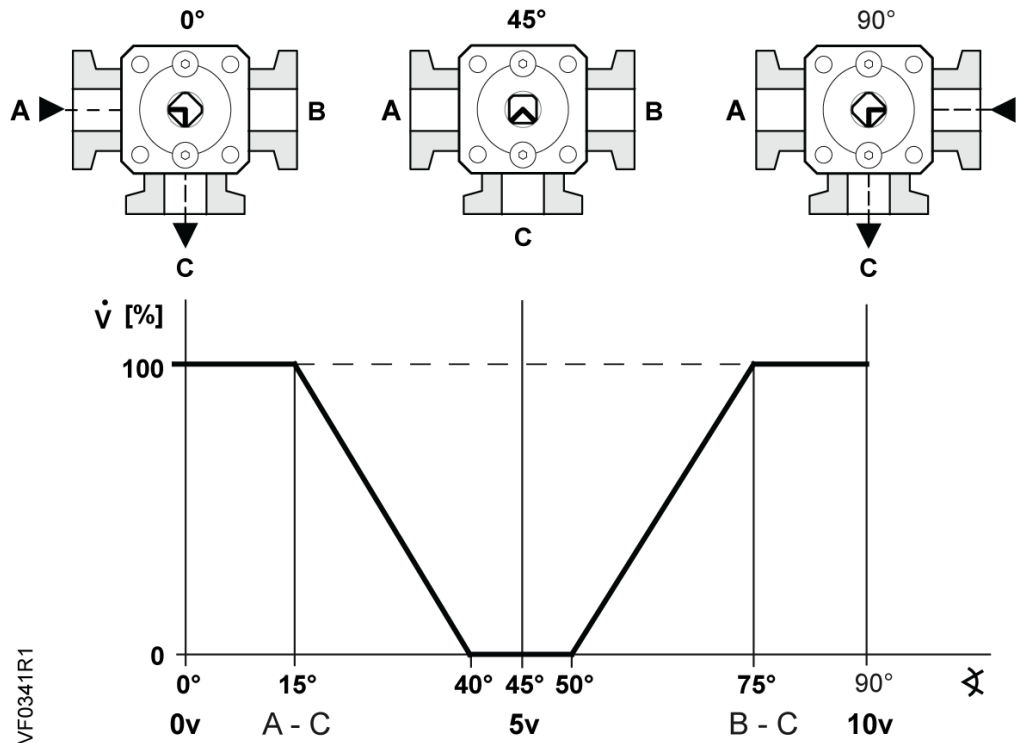

Figure 2. 6-way Ball Valve Characteristic Curve.
The 6-way ball valve enables control between two sources (A and B) through positions 0° and 90° and is closed at 45°. Both sources supply the same coil (C). See Figure 2.
The 6-way ball valve is combined with the GDE161.1P modulating fail-in-place actuator. The market standard operation is shown in Figure 2. A control signal of 0V provides full flow from Source A, 5V is both Source A and Source B closed, and 10V provides full flow from Source B. Both Sources A and B have a linear flow characteristic. The control range for modulating the flow of Source A is with a control signal between 0V and 4.5V. The control range for modulating the flow of Source B is with a control signal between 5.5V and 10V.